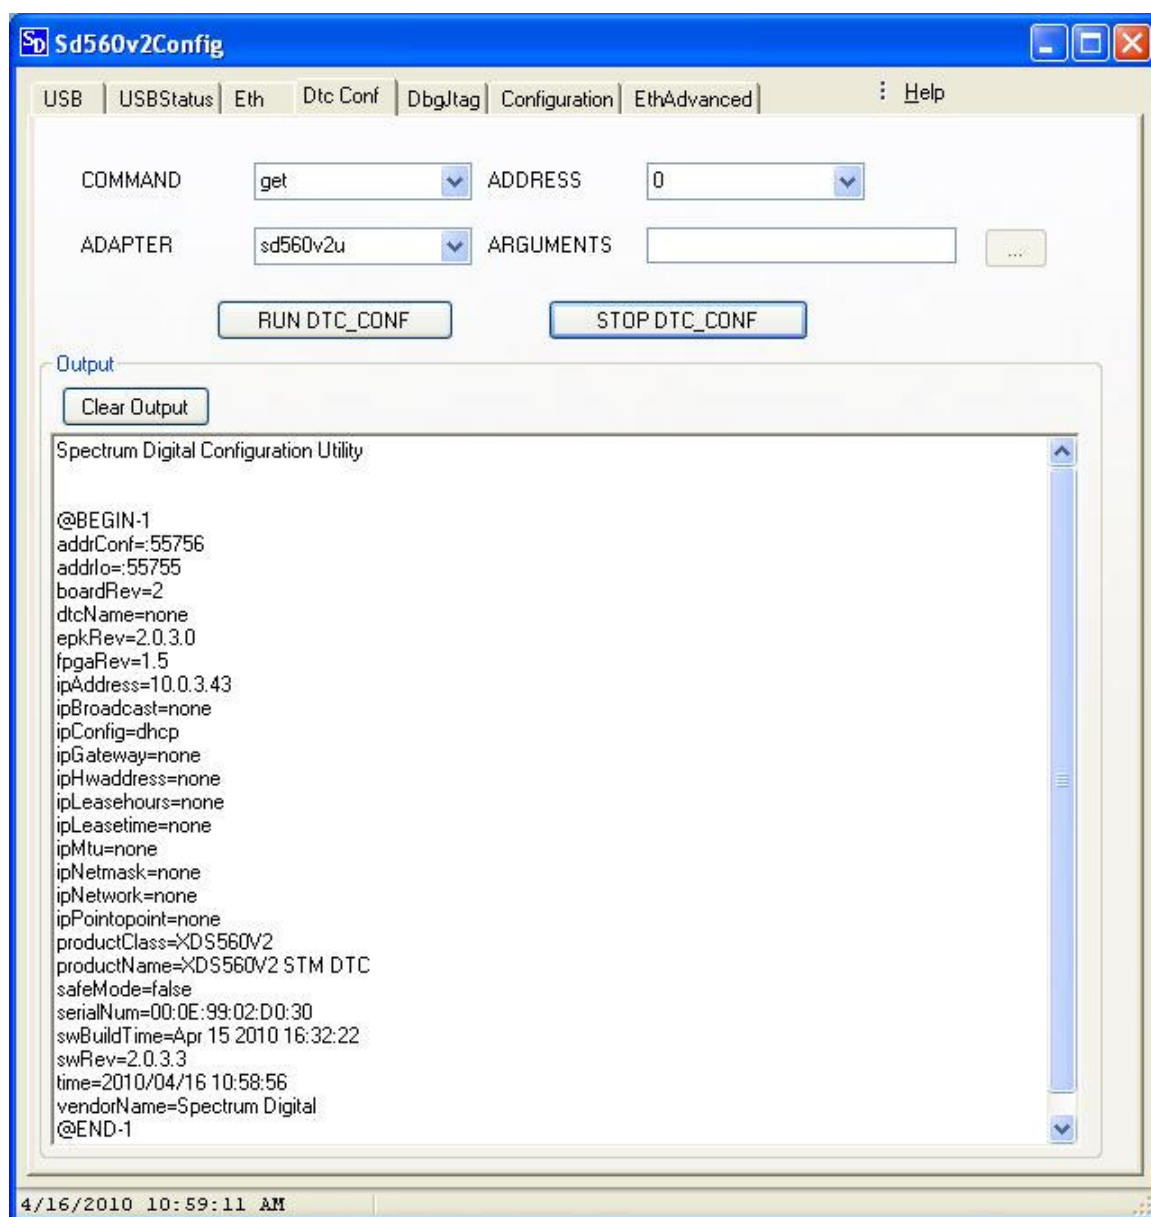

FIGURE 13: Sd560v2Config – DtcConf tab to get configuration variables
3. Select the adapter address. For USB select the port addresses (0-15) on which USB is connected. For Ethernet, select the emulator’s ipAddress from the drop down box. Click on RUN DTC_CONF. A sample output is as shown in figure 13 below.